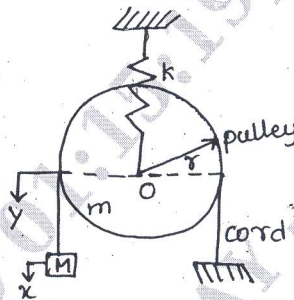

Fig Q2(b)
- b. Determine the differential equation of motion of the system shown in Fig Q2(b). Moment of inertia of the mass m and the bar about the pivot point is I_0 .